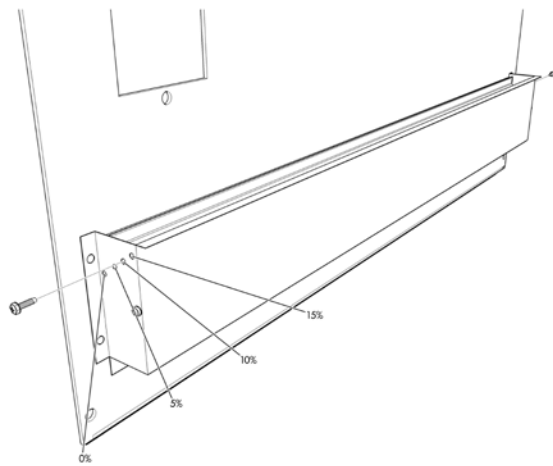

Figure 6a. Fresh Air Hood Damper, Models 24-72
2. Mount the thermostat on the wall of the shelter. The thermostat should be located so that the supply air from the unit does NOT blow directly on to the thermostat. Connect the thermostat to the terminal block in the ComPac air conditioner as shown in Figures 6a and 6b.